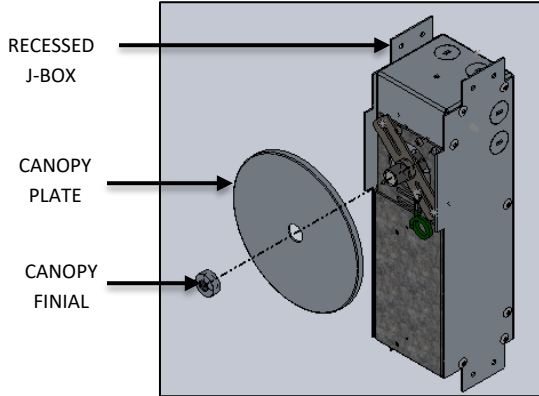

FIG. 6 - FINIAL AND CANOPY DISASSEMBLY
1. Unscrew CANOPY FINIAL and remove the CANOPY PLATE out of J-BOX as shown in FIG 6.